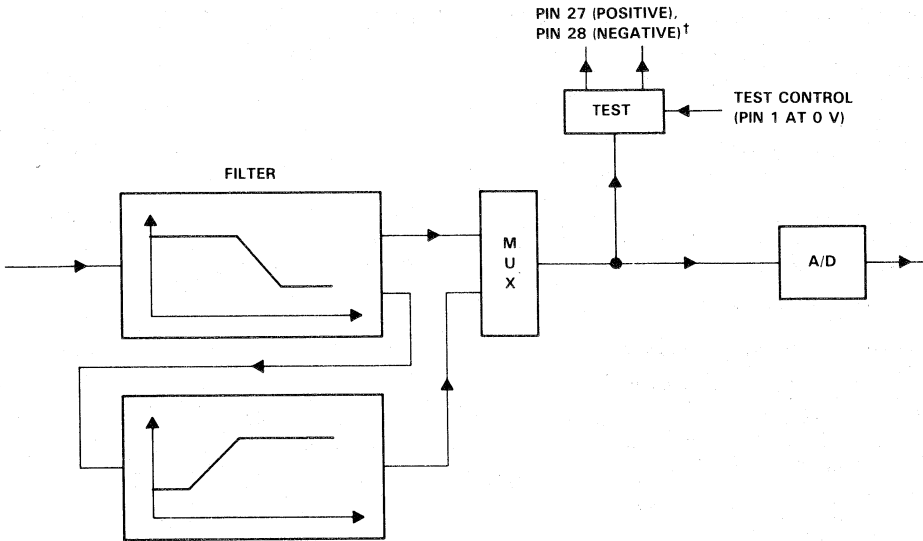

FIGURE 1. BANDPASS OR LOW-PASS FILTER TEST FOR RECEIVER SECTION
In normal operation, the nonusable (NU) pins are left unconnected. These NU pins are used by the factory to speed up testing of the TLC32045 Analog Interface Circuit (AIC). When the device is used in normal (non-test mode) operation, the NU pin (pin 1) has an internal pull-down to -5 V . Externally connecting 0 V or 5 V to pin 1 puts the device in test-mode operation. Selecting one of the possible test or NU modes is accomplished by placing a particular voltage on certain pins. A description of these modes is provided in Table 2 and Figures 1 and 2.